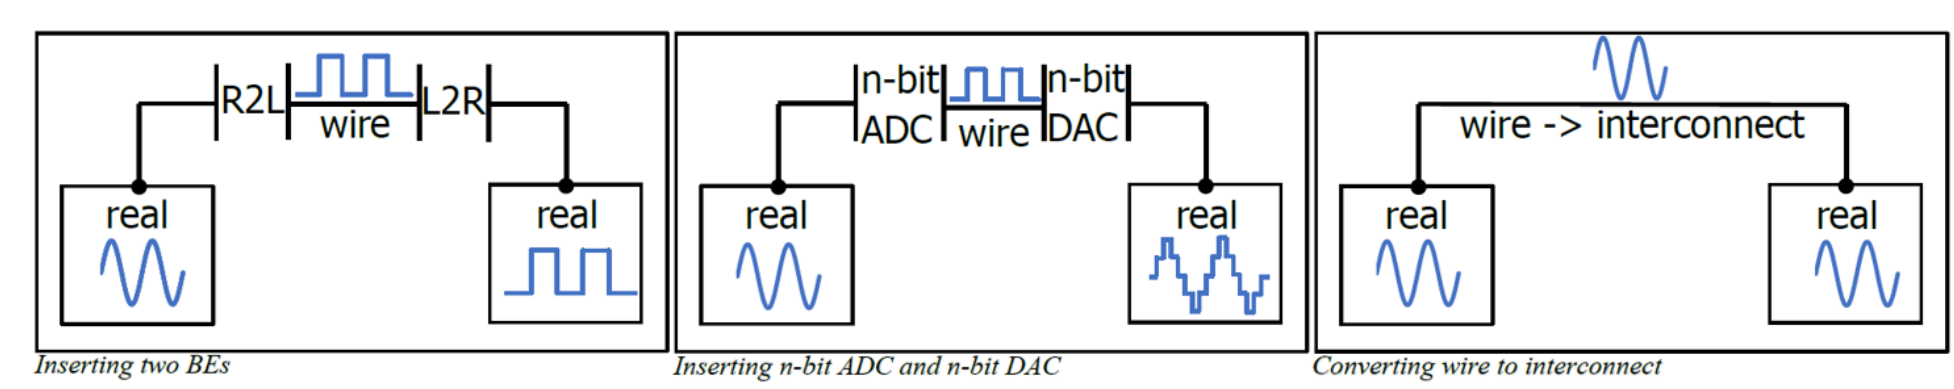

Figure 9: Wire to Interconnect
- Convert these wires to interconnect. Interconnect can hold any value according to the type of data connected to it. Therefore, it is the best solution as shown in Figure 9.